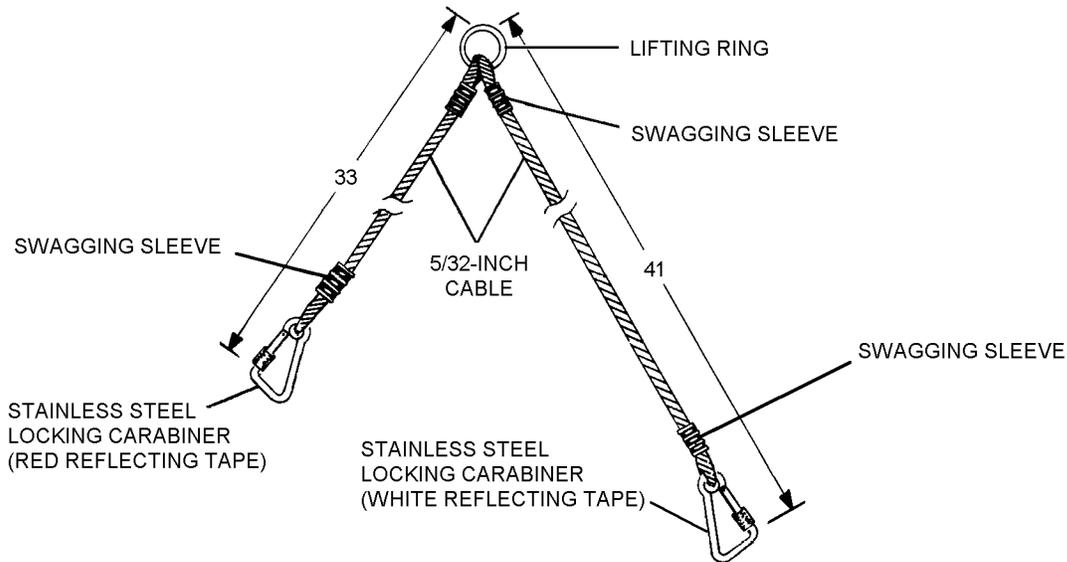

Figure 14-8. Hoisting Sling Assembly (One Set)
1. Cut a 2-inch by 2-inch piece of reflective tape and attach as identified in figure 14-8.